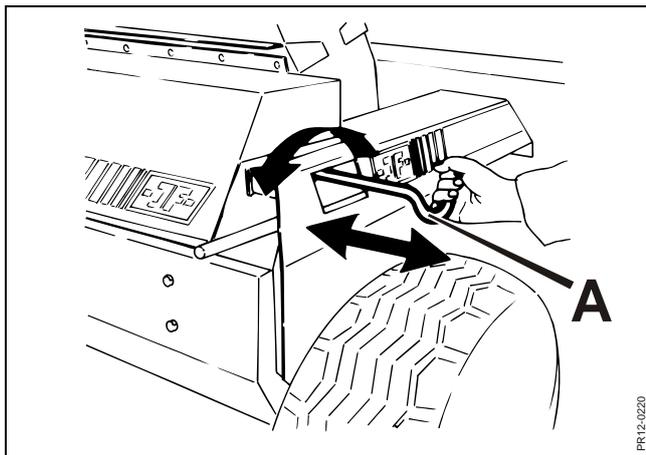

Fig. 4-13
- Fig. 4-13** 3. Adjust the grindstone so that there is 2-3 mm clearance between the stone and the blades by turning the handle **A**.